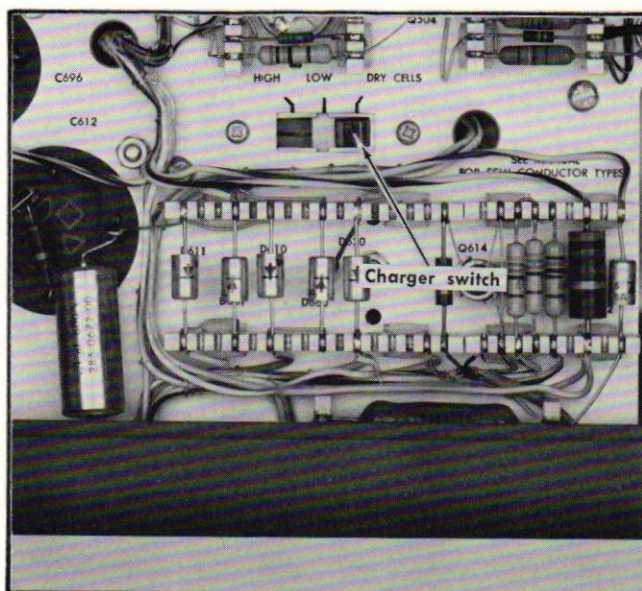

Fig. 2-4. Location of Charger switch (left side).
**Battery Charging.** When rechargeable battery cells are used in this instrument, the batteries can be recharged with the correct setting of the Charger switch. The Charger switch is located behind the left side panel (see Fig. 2-4). When the Charger switch is set to High or Low and the instrument is connected to an AC line-voltage source, a trickle charge is connected to the internal batteries in the ON EXT AC-DC and OFF TRICKLE CHG positions of the POWER switch. This trickle charge maintains a full charge on the batteries without over-charging them. In the OFF FULL CHG position of the POWER switch, the Charger switch determines the charge rate of the internal batteries. Table 2-2 lists the charge rate in each position of the POWER and Charger switches at various line voltages within the regulating range. The rechargeable batteries supplied by Tektronix, Inc. can be charged in the High position of the Charger switch at all line voltages. However, batteries obtained from other sources should be charged in the Low position of the Charger switch unless the manufacturer's specifications state that it will withstand the High position charge rate. If necessary, an autotransformer can be used to lower the line voltage and reduce the charge rate (necessary